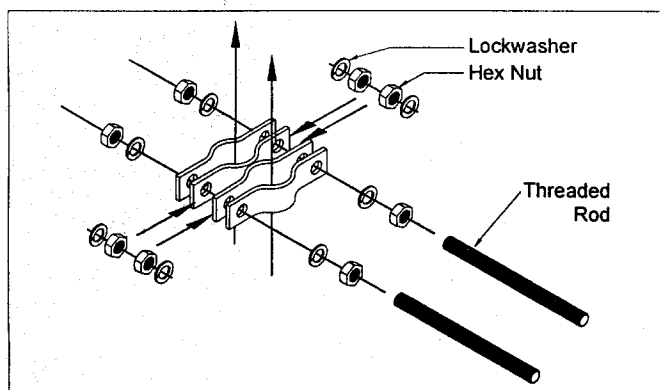

Figure 3. Mounting Clamp Hardware.
4. Securely attach the antenna to the mast or tower using the two DB365-OS or ASPR616 clamps provided (Figures 3 and 4). Do not overtighten the clamps; doing so will weaken the installation.